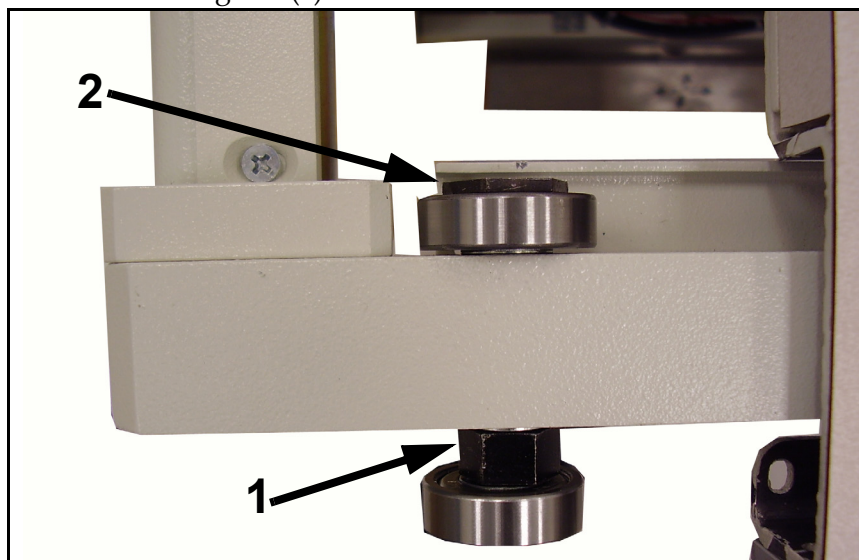

Figure 2-37. Tightening Bearing Nut
- 60** While holding the eccentric nut (1 in Figure 2-37) still, tighten the bearing nut (2).